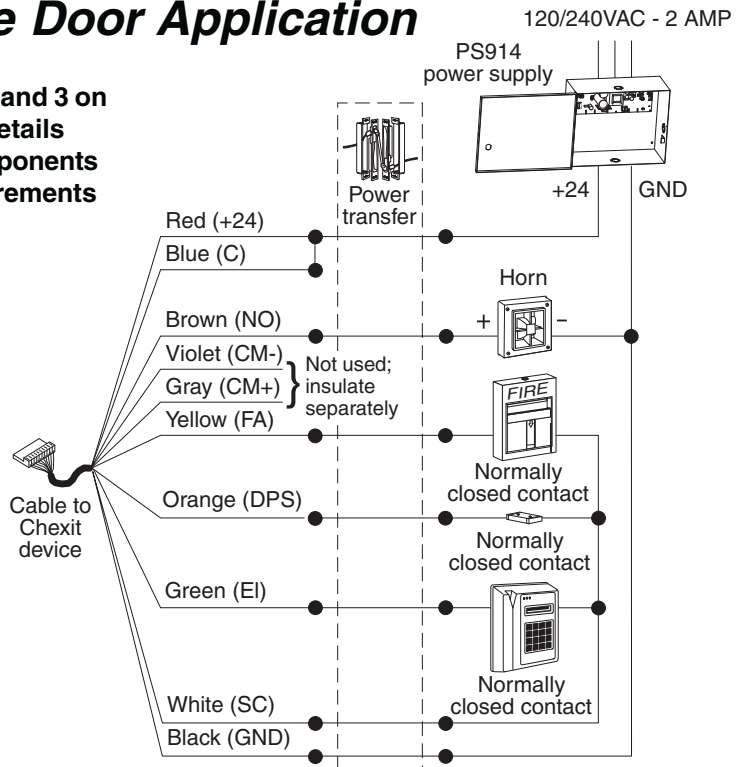

Figure 2. Wiring Connections, Single Door
- 2. If available, get a wiring diagram for your installation. Otherwise, refer to Figures 2, 3, 5, 7 and Table 1 in "Typical Wiring" and mark the components you use in Table 1.
- 5. Mount components and connect them to field wiring (see Figure 2, 3, 5, or 7).
Components **must** be connected to wire colors as shown in Figures 2, 3, 5, and 7 in "Typical Wiring."